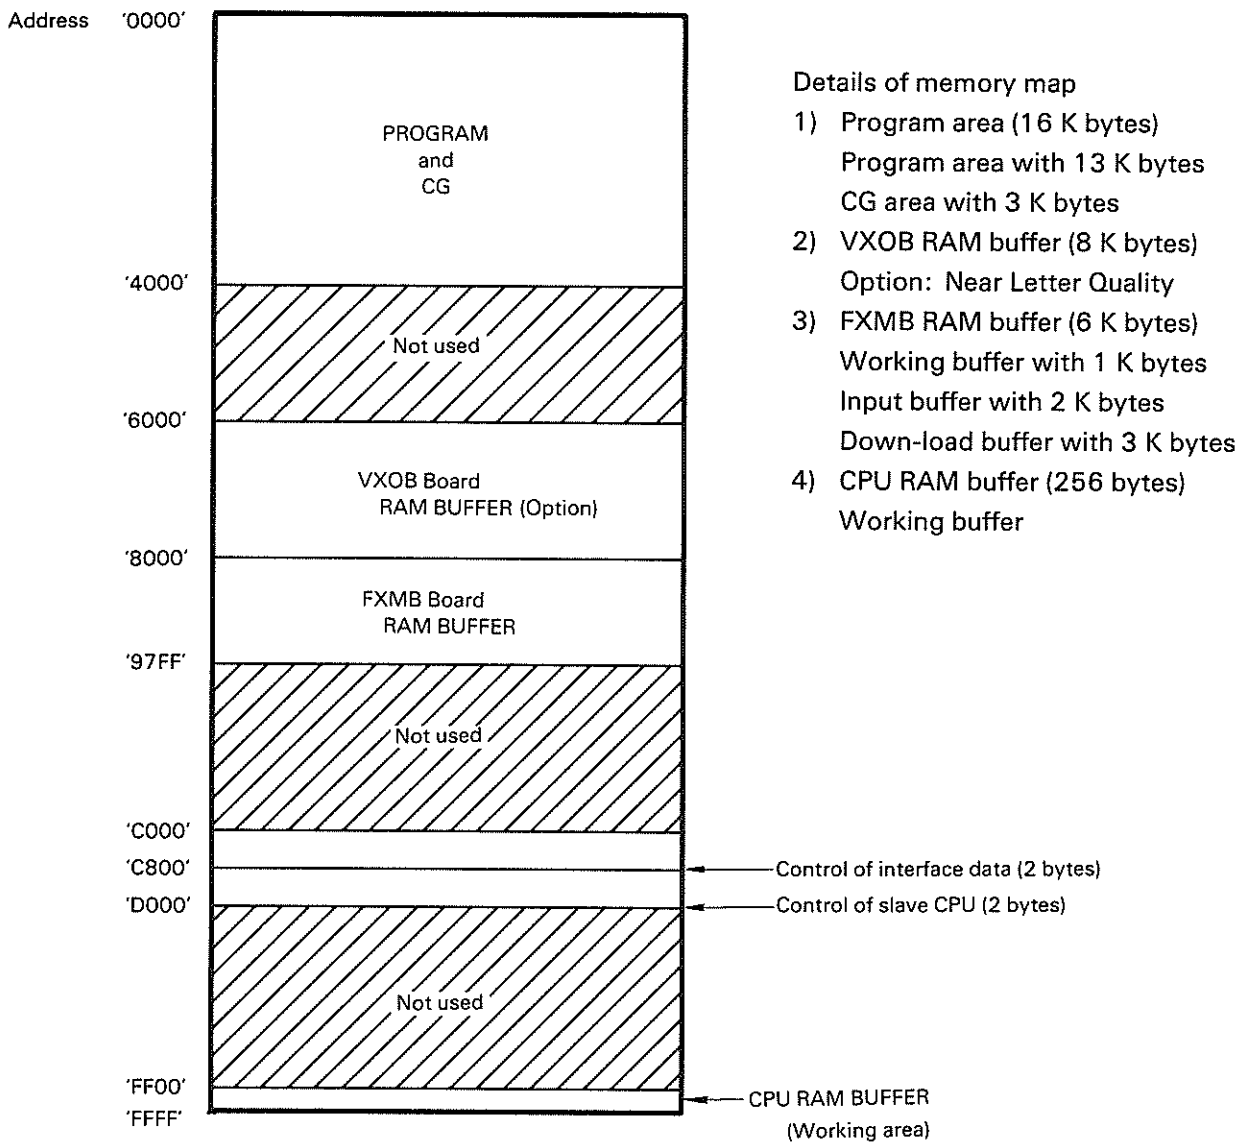

Fig. 2-7. Memory Map (FX-80+/100+)
2.4.6 MEMORY MAP (Figs. 2-7 and 2-8)